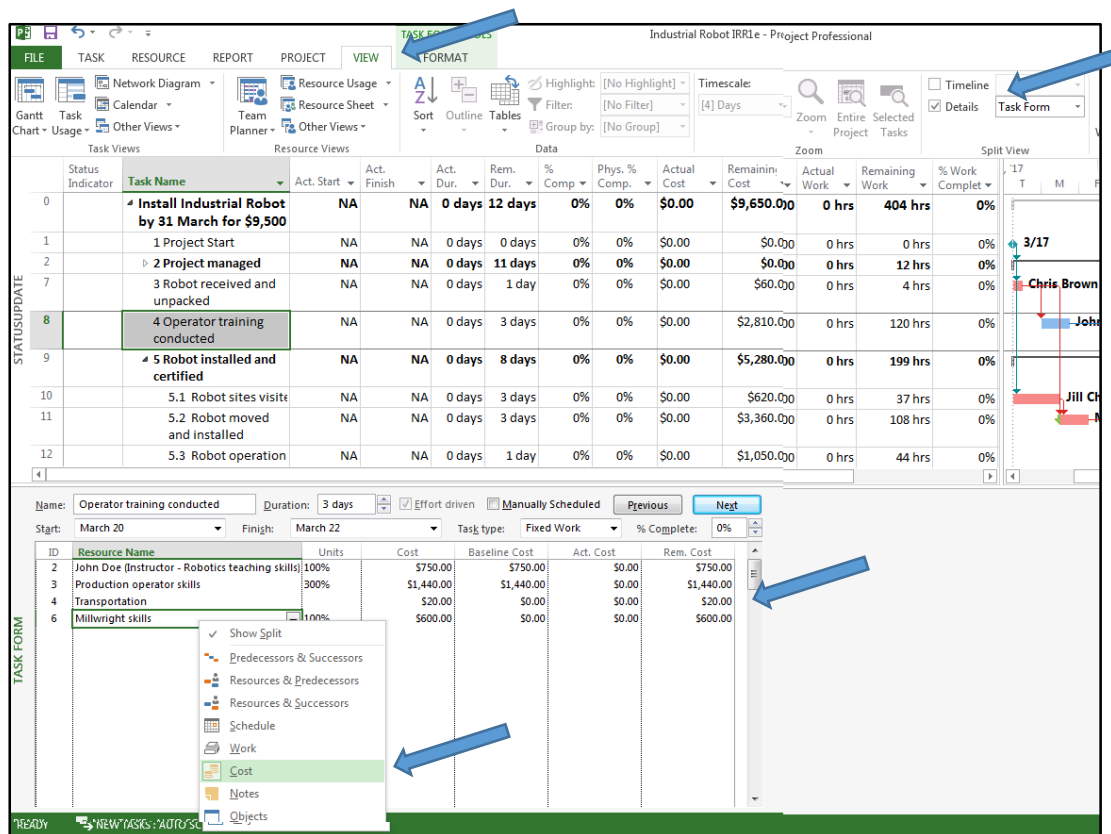

Figure 47
- When you update % Complete, Work and Materials resources will update automatically, but not the Cost resource. In Figure 47, Transportation is an example of a Cost resource and that has to be updated manually by entering the Actual amount.